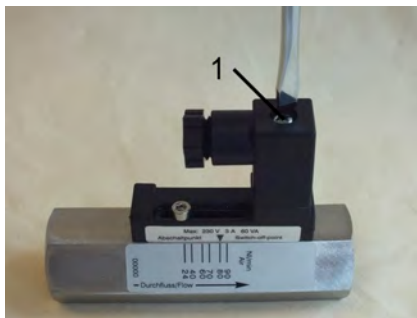

Fig. 20: Detach socket
1. Release the fixing screw (Fig. 20/1) from the socket
9. → Place the female socket onto the connecting plug and tighten the fixing screw (Fig. 20/1).